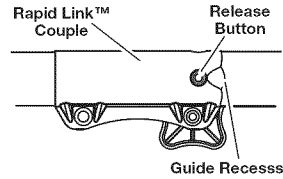

Fig. 4
2. Press and hold the release button (Fig. 4).
NOTE: Aligning the release button with the guide recess will help installation (Fig. 4).